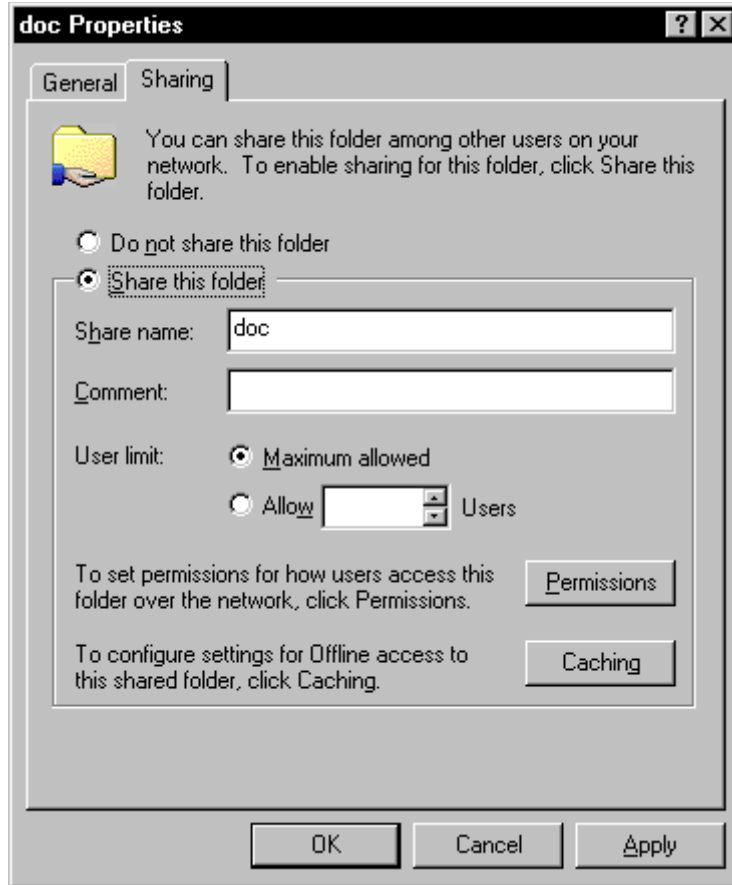

Figure 13-2
2. Right-click the **doc** folder. Select **Sharing** from the drop-down menu. The Sharing tab on the doc properties dialog box is displayed, Figure 13-2.